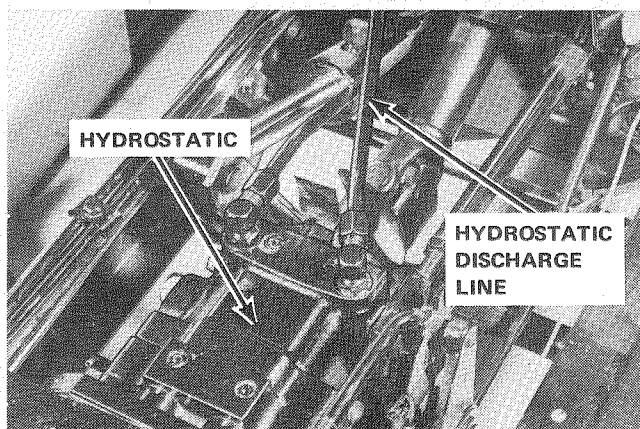

Figure 1
4. Remove discharge line from hydrostatic and control valve. See figure 1.